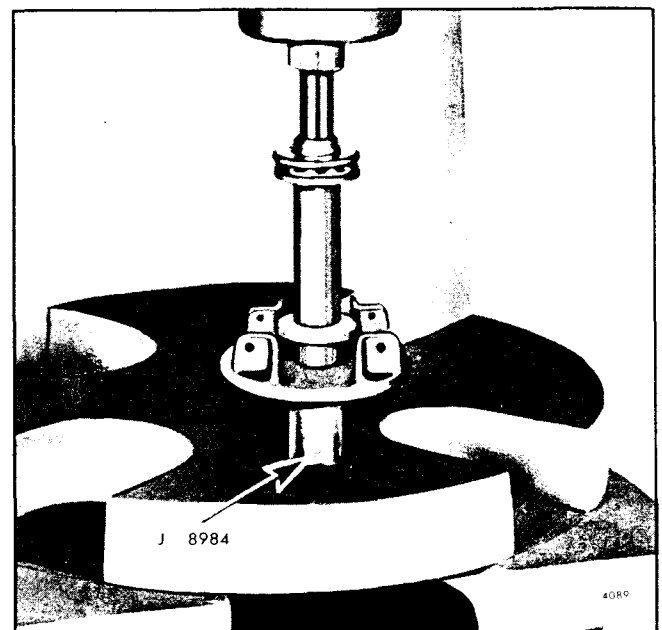

Fig. 16 - Installing Weight Carrier on Shaft
2. Use installer J 8984 as illustrated in Fig. 16 and press the shaft into the weight carrier. The tool will properly position the carrier on the shaft.